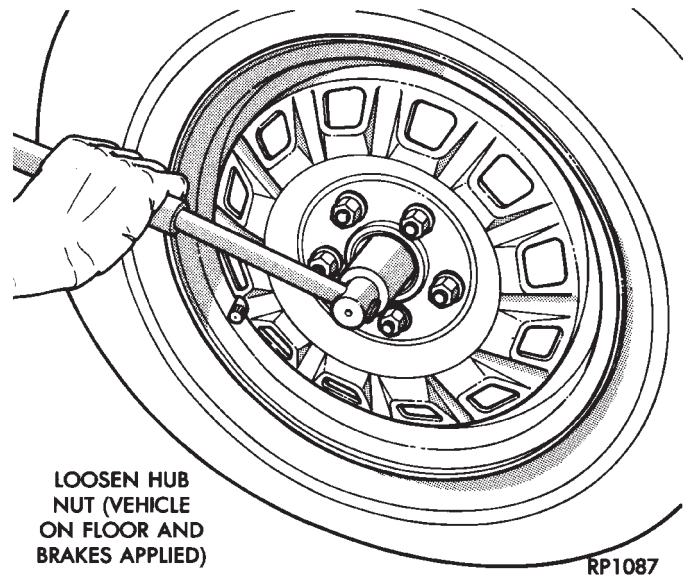

Fig. 3 Loosen Hub Nut
(2) Loosen hub nut while the vehicle is on the floor with the brakes applied (Fig. 3). **The hub and drive-shaft are splined together through the knuckle (bearing) and retained by the hub nut.**